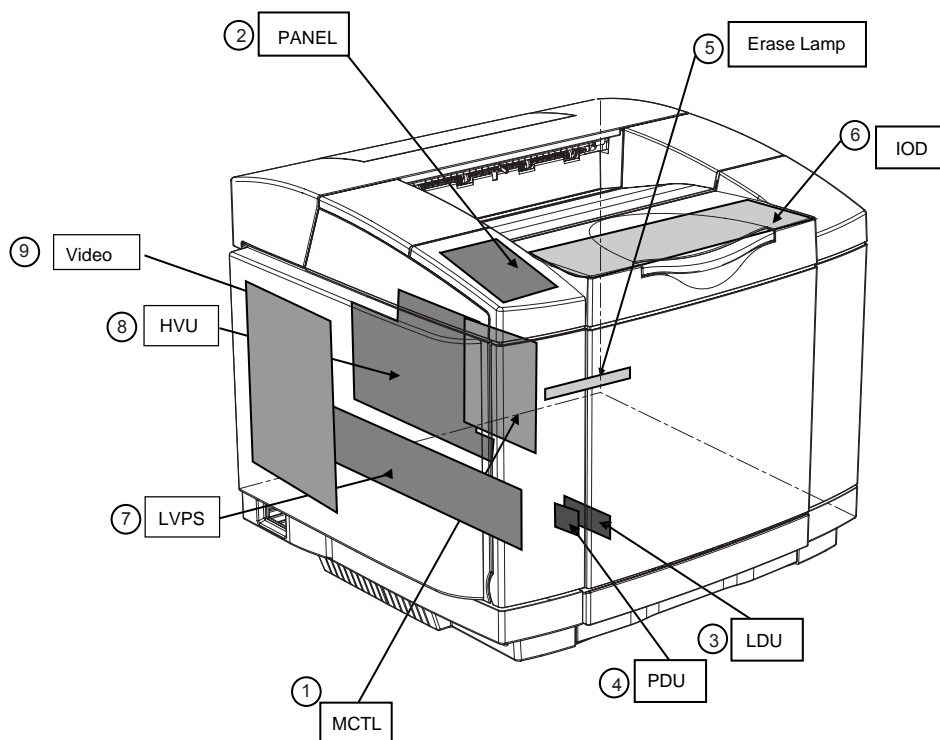

Fig.4-28
(1) Print PCB (Refer to Fig. 4-28.)